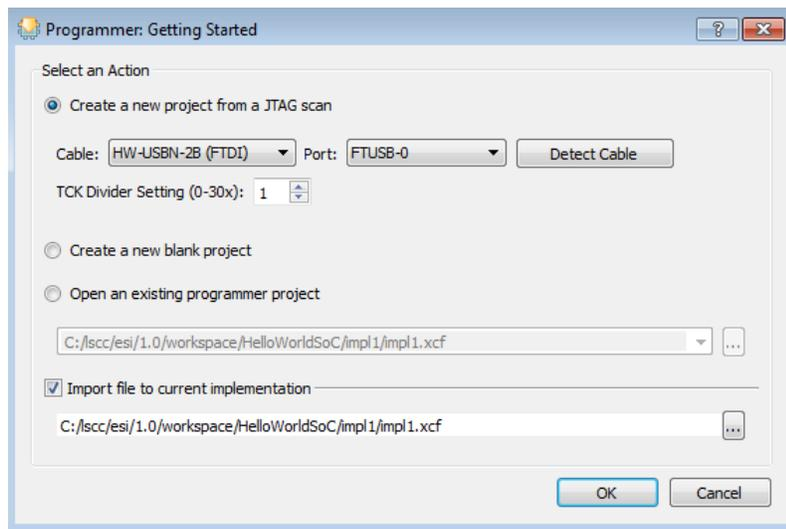

Figure 4.4. Programmer Getting Started Dialog
2. The **Programmer: Getting Started** dialog pops up (Figure 4.4). Click **OK**.